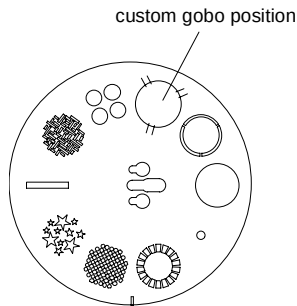

Figure 3-11. Custom gobo aperture in gobo wheel
5. Manually rotate the gobo wheel until the custom gobo position is at the top of the wheel. The custom gobo position is identified by the three tabs on the outer edge of the aperture (see Figure 3-11).